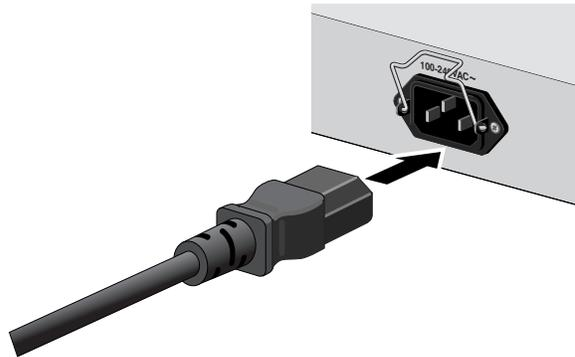

Figure 15 Connecting the AC Power Connector to Switch
2. Apply AC power to the switch by plugging the power cord into the AC power connector on the back panel of the unit, as illustrated in Figure 15.